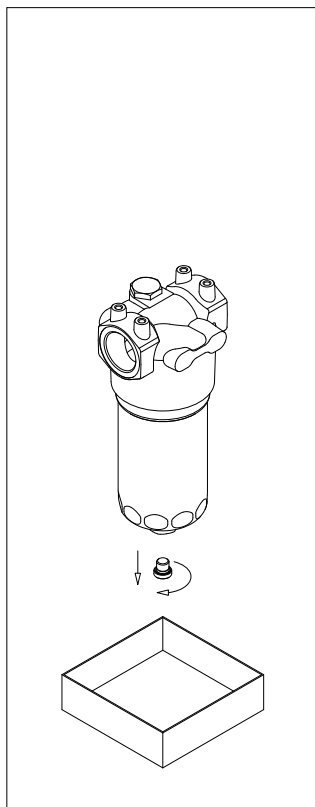

fig. 1
- (Fig. 1) If provided, unscrew the drain plug after placing a vessel to collect the operating fluid